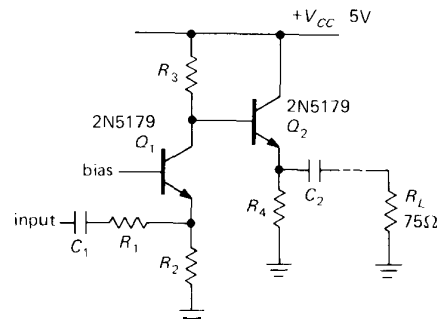

Figure 13.63
(5) Design a video amplifier with a gain of +5 and a rolloff of 20MHz or more. The input impedance should be 75 ohms, and the output should be able to drive a 75 ohm load with 1 volt pp output capability. A nice way to achieve the noninverting gain is to use a **common-base** input stage with an emitter follower output, as suggested in Figure 13.63. If you like the circuit, finish the design by choosing operating currents, resistor values, and biasing components. You can, of course, use something like a differential amplifier/cascode/follower combination, if you prefer. Note that the gain must be noninverting, or the image will be reversed.